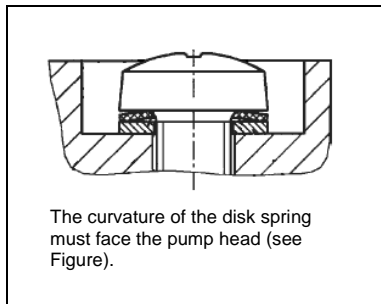

Fig. 25: Aligning the disk spring
- i** Refer to Fig. 25 for arrangement and alignment of disk springs and the washers.